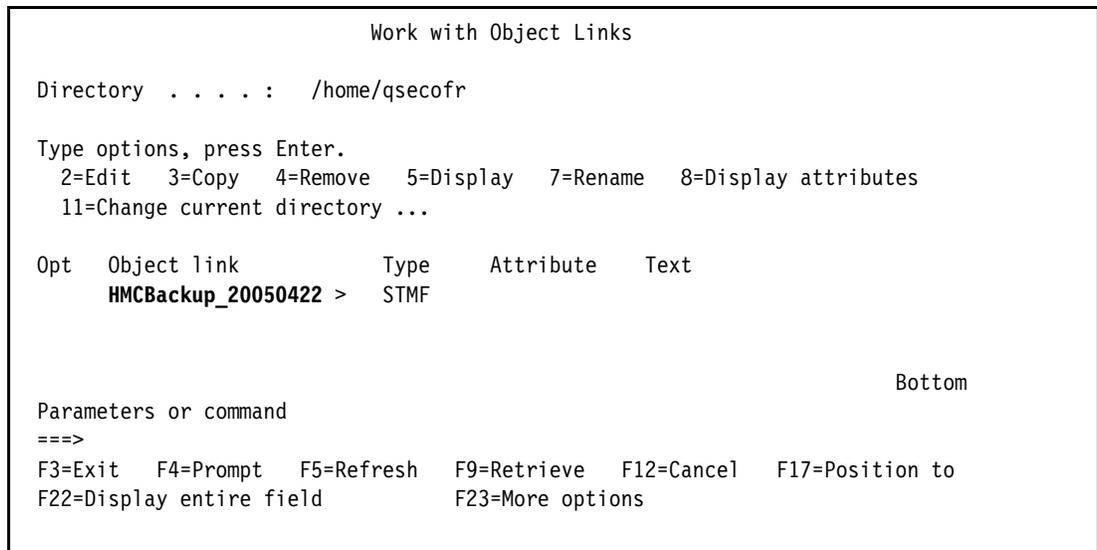

Figure 14-7 WRKLNK - HMC CCD Backup
7. You can view the CCD backup file in the i5/OS IFS by using the WRKLNK command. Figure 14-7 shows the WRKLNK for the QSECOFR home directory after the HMC CCD has completed.